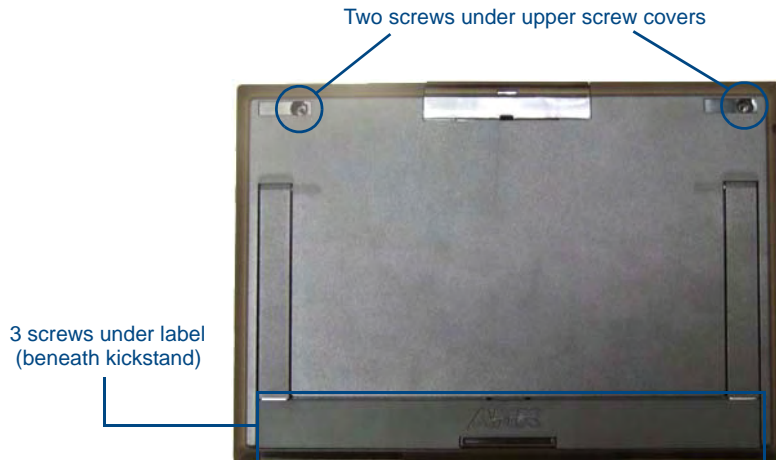

FIG. 102 Screw placement at the back of the MVP-9000i
5. Remove the five screws on the back of the device. (FIG. 102).